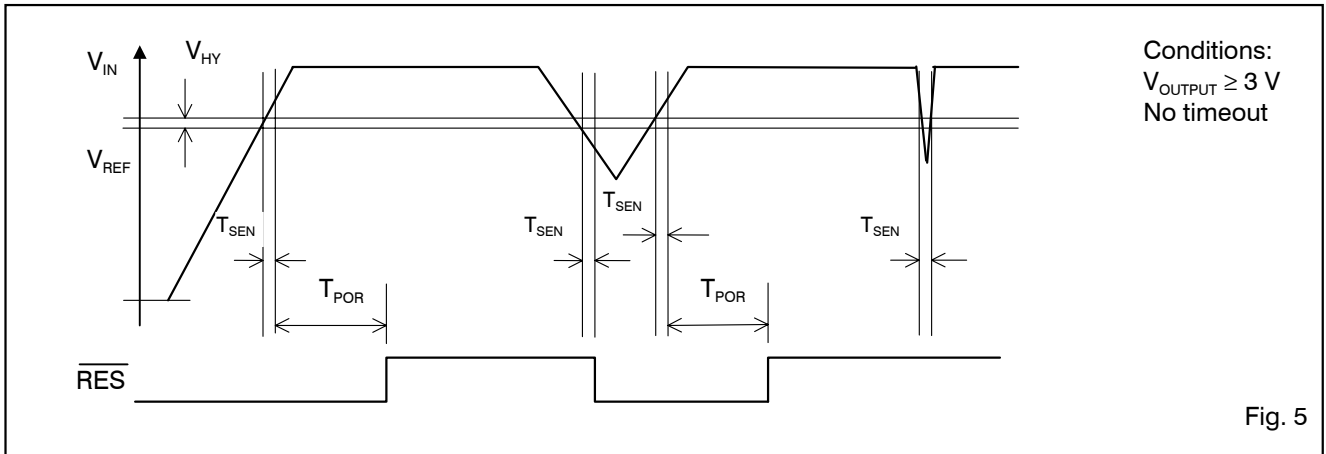

Fig. 5
- ⁷⁾ The comparator reference is the power-down reset threshold. The power-on reset threshold equals the comparator reference voltage plus the comparator hysteresis (see Fig. 5).
At power-up the reset output ($\overline{RES}$) is held low (see Fig. 5). After INPUT reaches 3.36 V (and so OUTPUT reaches at least 3 V) and V_{IN} becomes greater than V_{REF} , the $\overline{RES}$ output is held low for an additional power-on-reset (POR) delay which is equal to the watchdog time T_{WD} (typically 100 ms with an external resistor of 110 k Ω connected at R pin). The POR delay prevents repeated toggling of $\overline{RES}$ even if V_{IN} and the INPUT voltage drops out and recovers. The POR delay allows the microprocessor's crystal oscillator time to start and stabilize and ensures correct recognition of the reset signal to the microprocessor.